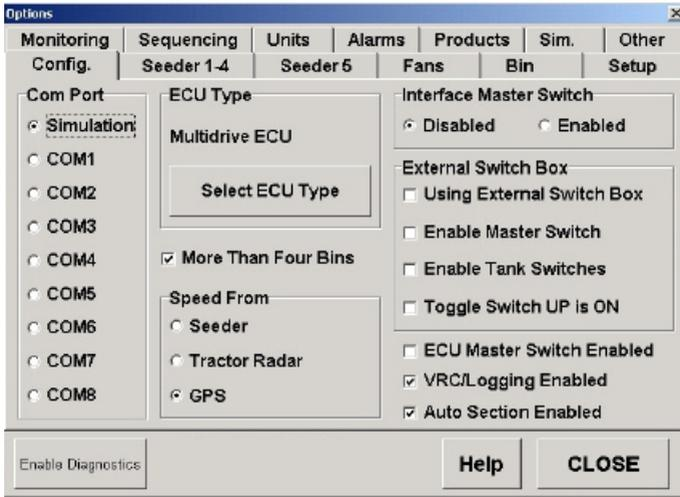

Figure 6-1. Options window
1. Click (Tap) the **OPTIONS** button from the Main Menu on the right of the Seed Rate Controller Working screen and the **Options Menu** as shown in Figure 6-1 will appear.